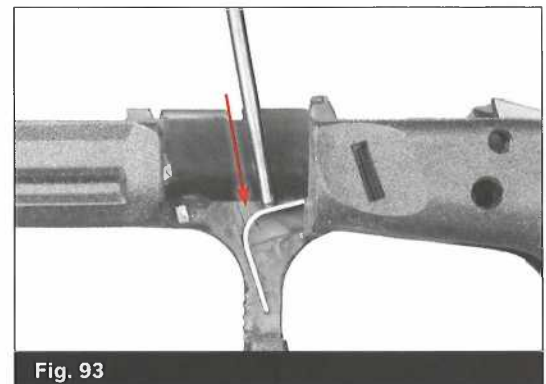

Fig. 93
- Use the disassembly tool to seat it completely. (Fig. 93)